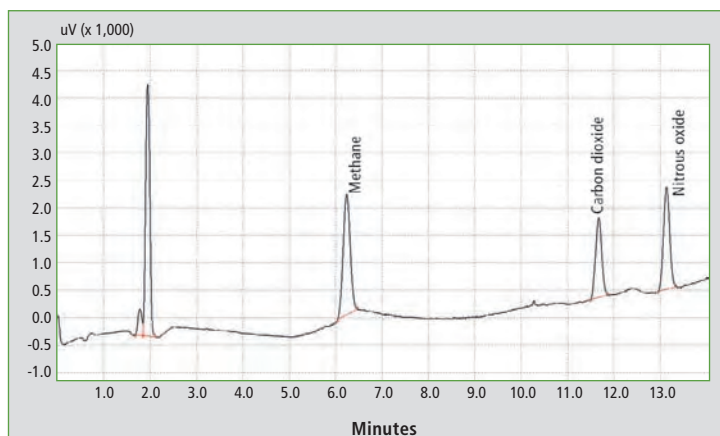

Figure 3: Chromatogram of the standard, 500 ppb methane, carbon dioxide and nitrous oxide in helium
Table 1: Evaluation of the standard sample in figure 3. Detection limits (DL) are calculated at a signal-to-noise ratio of 3.3.